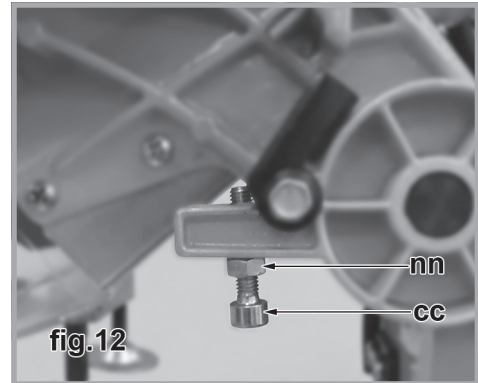

fig.12
2. Turn the kerf depth adjustment screw (cc, fig.12) with a 5 mm hex wrench so that the saw blade teeth are slightly below the table surface in line with the front surface of the fence.
4. Tighten the hex locking nut (nn, fig.12) on the shank of the kerf depth adjustment screw to lock its setting.